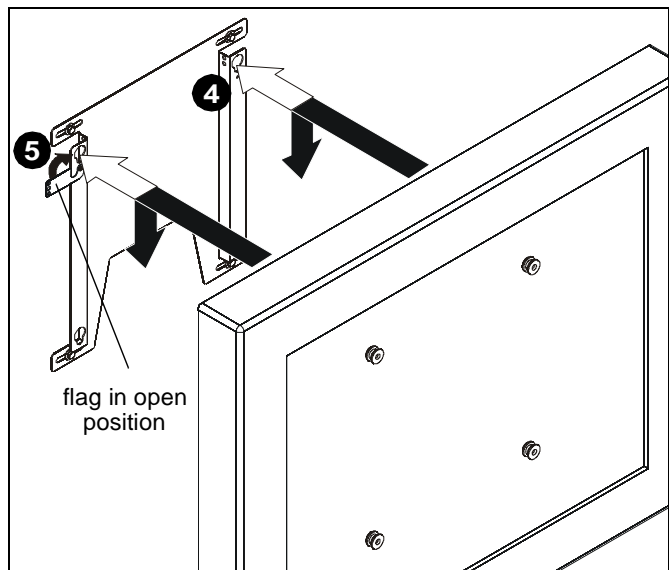

Figure 4
3. Make sure latching flag (B) is in open position. (See Figure 4)
4. Hang display on mount by placing mounting buttons (K) in four teardrop mounting holes. (See Figure 4)
5. Secure by moving flag into closed position. (See Figure 4)